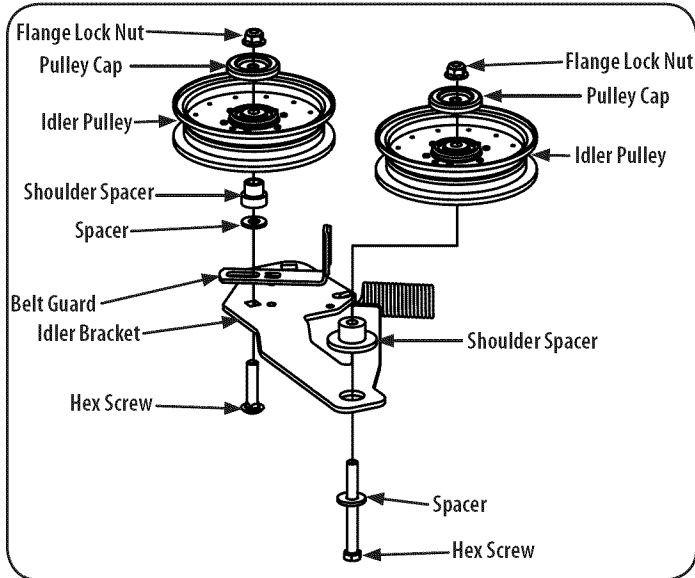

Figure 36
- Remove the movable idler pulleys and belt guard on the left pulley by removing the hex screws, pulley cap and flange lock nuts that secure them to the idler arm. See Figure 36. Do not lose any of the hardware when removing the hex screw, belt guard, pulley cap, spacer, shoulder spacer and flange lock nut.
- Place the belt around the idler pulleys removed in step 3 with the "V" side facing in. Once in place, reinstall all the hardware and tighten the flange lock nut to secure the assembly. See Figure 36.
- Route the belt as shown in Figure 36 and then reinstall the deck (refer to Deck Installation).